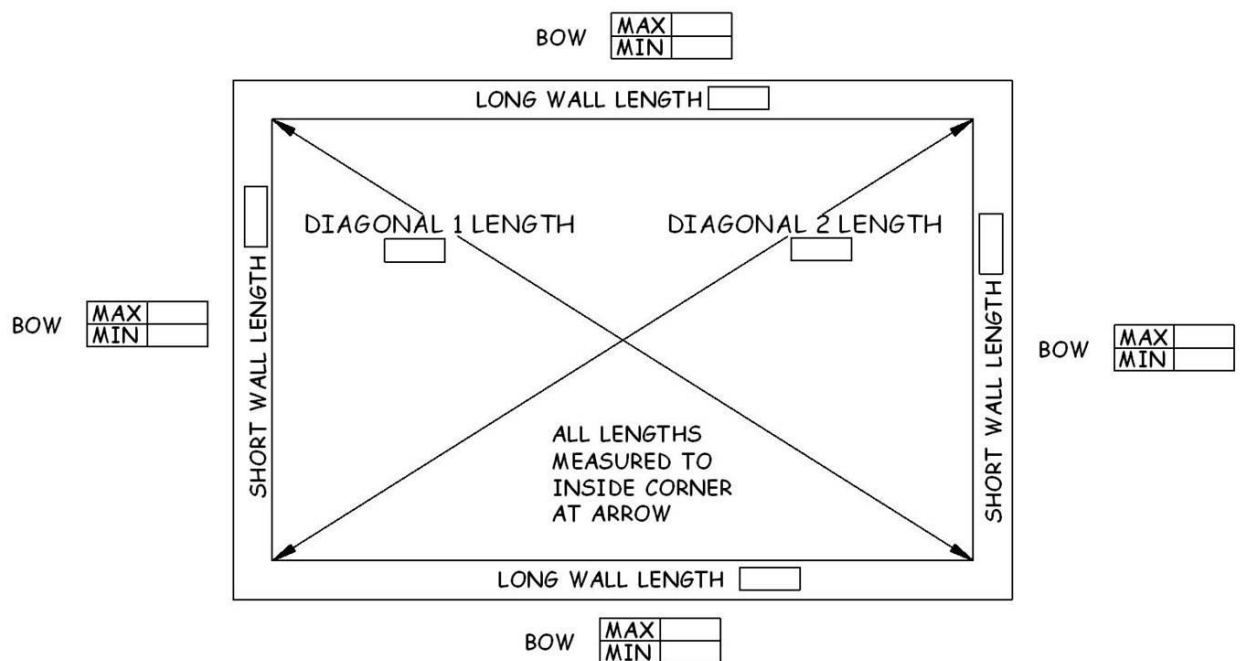

Figure 3-1. Wall Layout Diagram.
3. **Create a Rectangle** (See Figure 3-1). With a long steel tape, "burn a foot" and measure the lengths (between string lines) of the opposite walls at each end and record on the Wall Layout Worksheet (copy available in the Construction Binder). If opposite wall lengths differ by ⅛" OR MORE, adjust the string lines using additional 8d nails to equalize the lengths by adding one-half the difference at each end of the shorter wall. Otherwise, proceed to the next step.